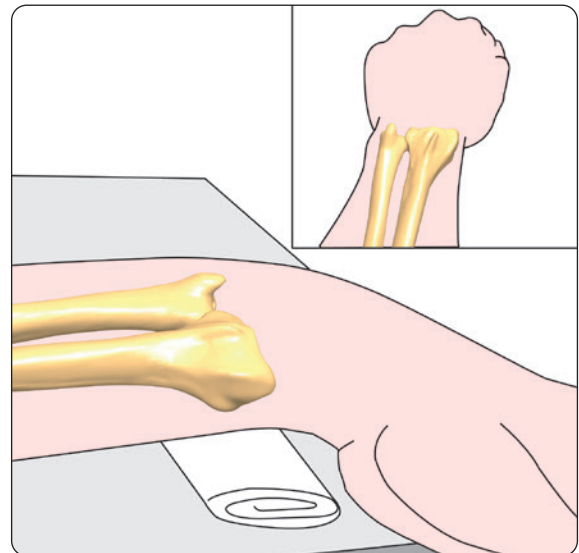

Fig. 31
- Place the wrist in moderate (manual) traction, flexion and radial abduction (i.e. Ulnar deviation) with a folded towel on the Ulnar side to support it (**Fig. 31**)